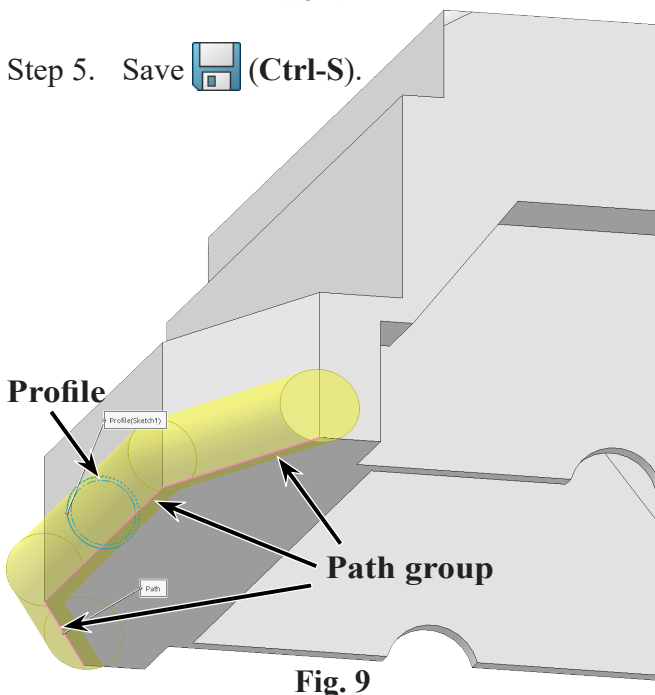

Fig. 9
Step 1. Rotate view to **hinge cut**, Fig. 9. Use **Right Arrow key**  once and use **Up Arrow key**  once.
**Profile**  click circle, Fig. 9
click the **3 edges along bottom of Sweep Cut**, Fig. 9